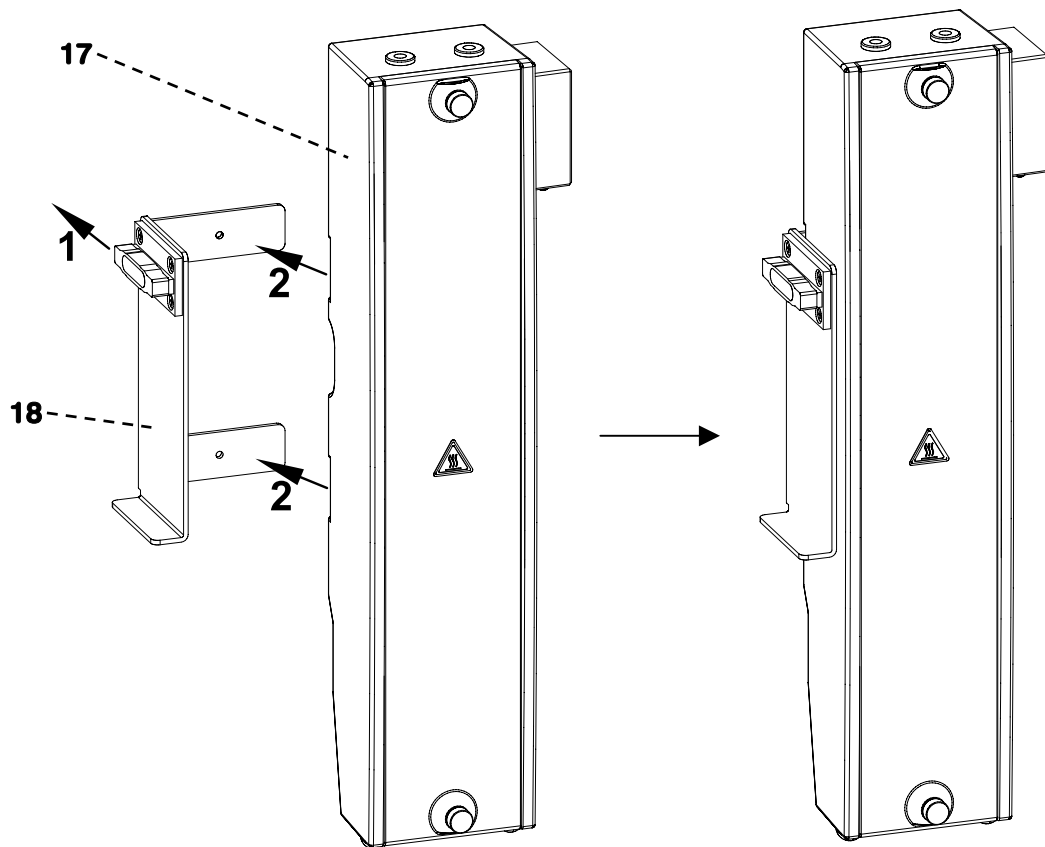

Figure 6: Attaching column heating with holder
- Column heating **17** can now be attached magnetically to holder **18** (see *Figure 6*).